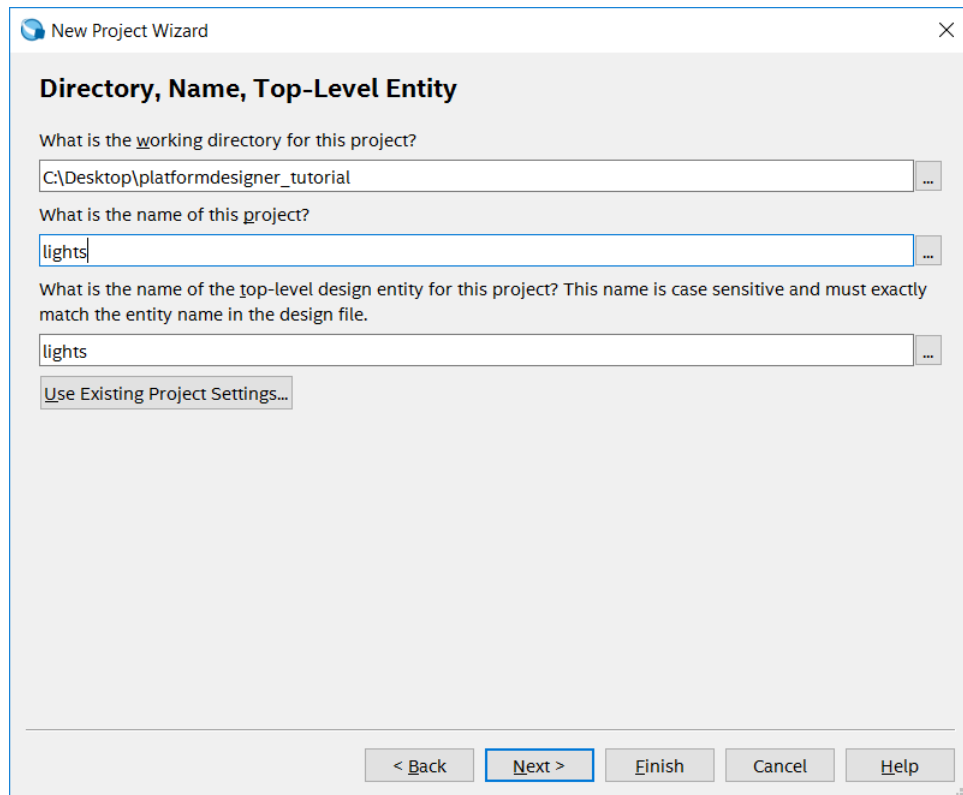

Figure 3. Create a new project.
1. Create a new Quartus Prime project for your system. As shown in Figure 3, we stored our project in a directory called *platformdesigner\_tutorial*, and we assigned the name *lights* to both the project and its top-level design entity. You can choose a different directory or project name. Step through the screen for adding design files to the project; we will add the required files later in the tutorial. In your project, choose the FPGA device used on your DE-series board. A list of FPGA devices on the DE-series boards is given in Table 1.